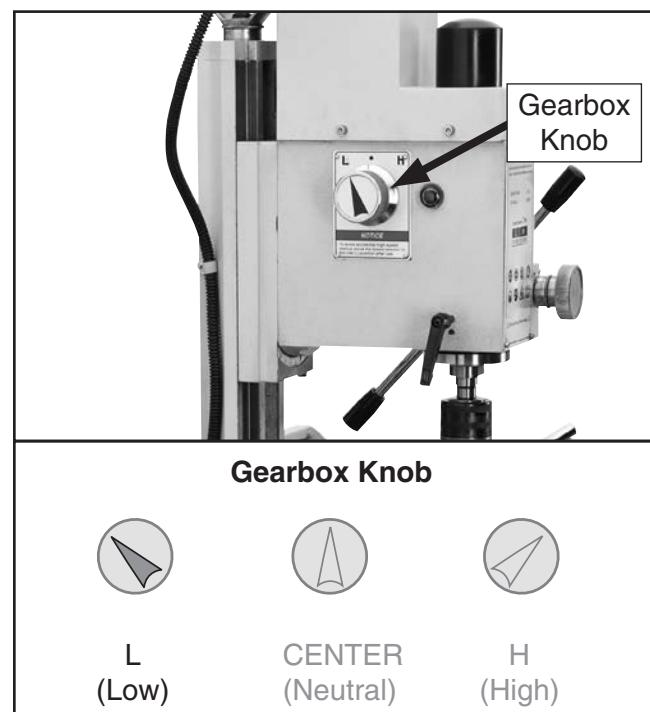

Figure 116. High/low gearbox knob set to low "L".
2. Rotate high/low gearbox knob (see **Figure 116**) to either "L" (spindle speeds 50–100 RPM) or "H" (spindle speeds 100–2000 RPM).